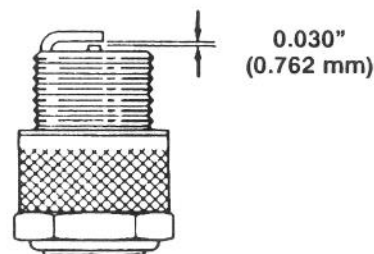

Figure 12
4. Set the air gap between the center and side electrodes at 0.030 in. (0.762 mm) (Fig. 12). Install the correctly gapped spark plug with a gasket seal and tighten the plug to 15 ft/lb (20.4 Nm). If you don't use a torque wrench, tighten the plug firmly.